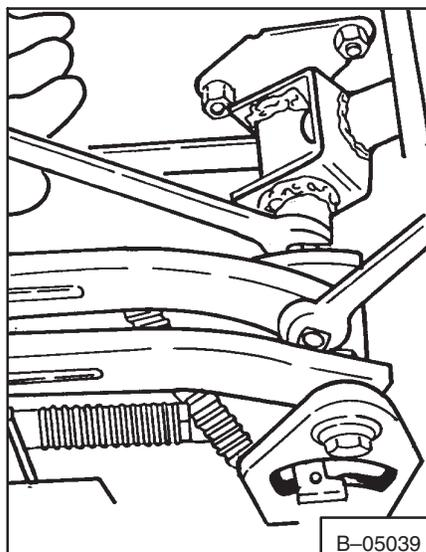

Fig. 3-7 Removing Steering Bar Bolts
6. Remove the steering linkage at the steering levers (Fig. 3-7).
3. Install the steering linkage (Fig. 3-7).